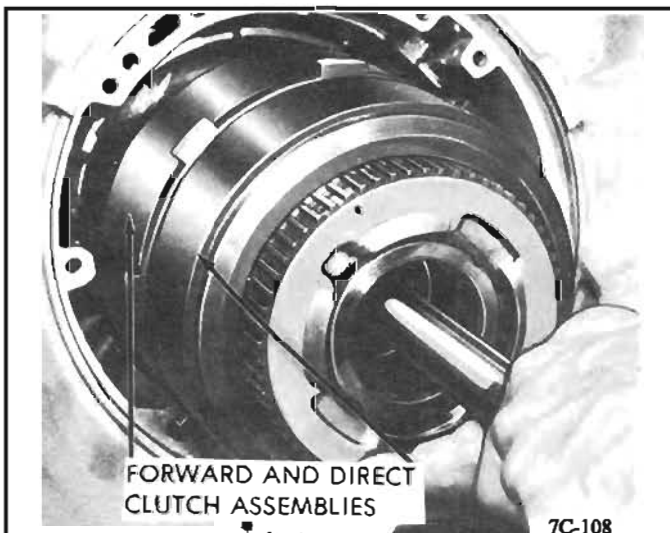

Figure 92 Forward and Direct Clutch Assembly Installation
2. Install direct clutch assembly to forward clutch assembly. Install assemblies into case making certain forward clutch faced plates are positioned over input ring gear and the tangs on direct clutch housing are installed onto slots on the sun gear drive shell. *See Figure 92.*